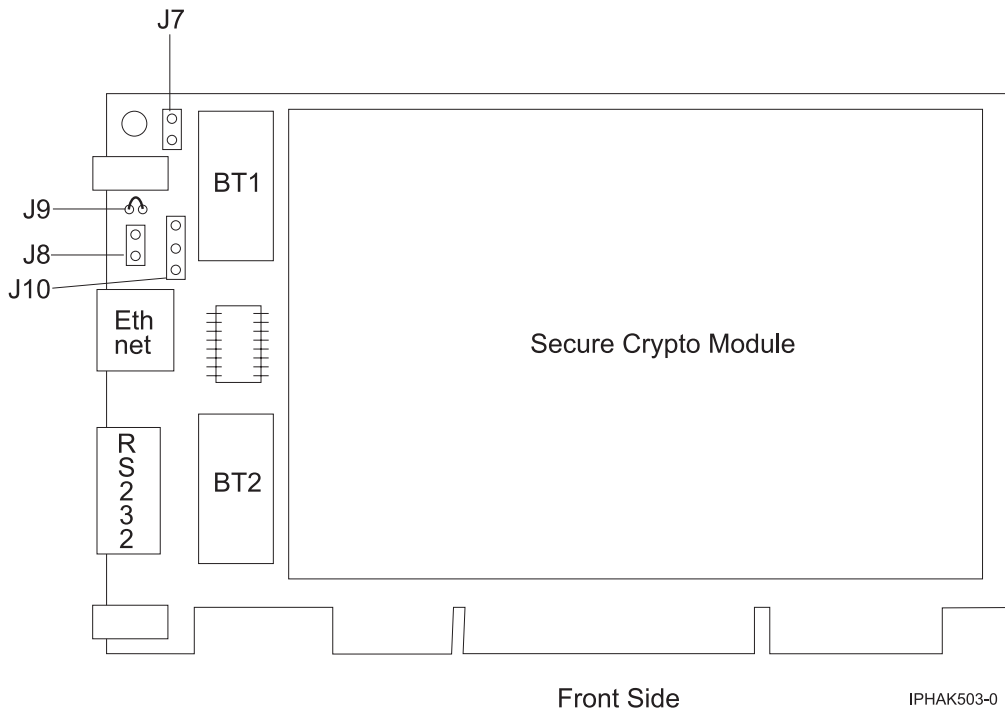

Figure 42. Front side of the adapter
6. Insert one of the new batteries into the battery tray provided with the kit. Align the + on the battery with the + on the battery tray (the end with the red wire). Connect the tray wires to the J10 connector located near the RS-232 serial port, as shown in Figure 42 on page 154. The connector is polarized to ensure a correct connection.